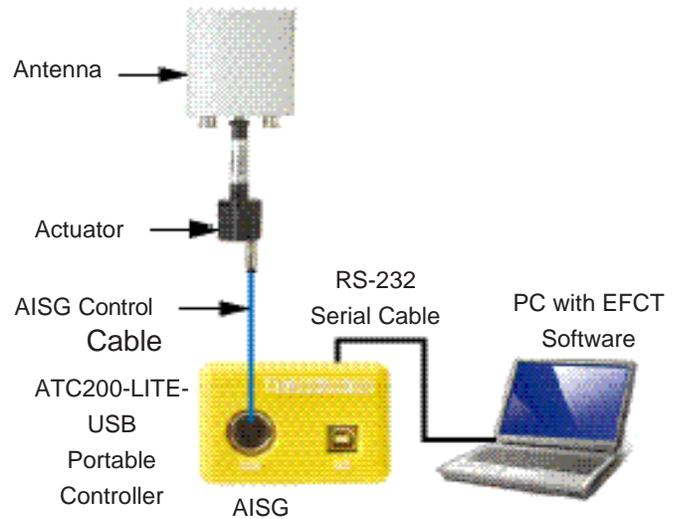

Figure 5-5. Actuator Reset to Ericsson Proprietary Software Shown with EFCT Software on PC.
3. After the actuator has been reset to Ericsson proprietary protocol, the ATC200-LITE-USB controller software can no longer be used with the actuator. Only use Commscope EFCT software on the PC that operates the controller (Figure 5-5).